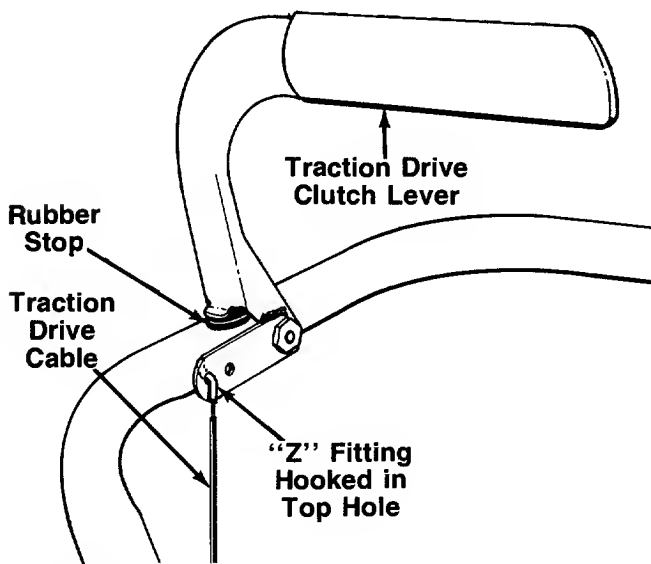
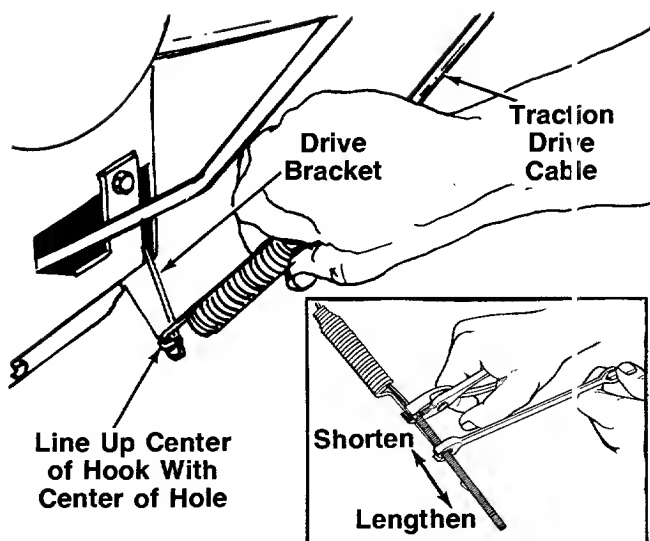

FIGURE 11.
FIGURE 12.
1. Hook the "Z" fitting on the end of the cable into top hole in the traction drive clutch lever (right hand side of handle). Hook the fitting from the inside as shown in figure 11. ←
2. Raise the clutch lever so it is just touching the rubber stop on the handle. See figure 11. With the clutch lever in this position, swing the traction drive cable down and simply hold it beside the drive bracket. **Do not pull on spring. Do not move bracket. The hook on the end of the spring must line up with the center of the hole in the drive bracket.** See figure 12.
If it does not, adjust the nut on the cable by sliding the spring up and using a 7/16" wrench and pliers to move the nut on the end of the cable up or down as necessary until the hook on the spring aligns with the center of the hole in the bracket. See figure 12, inset.